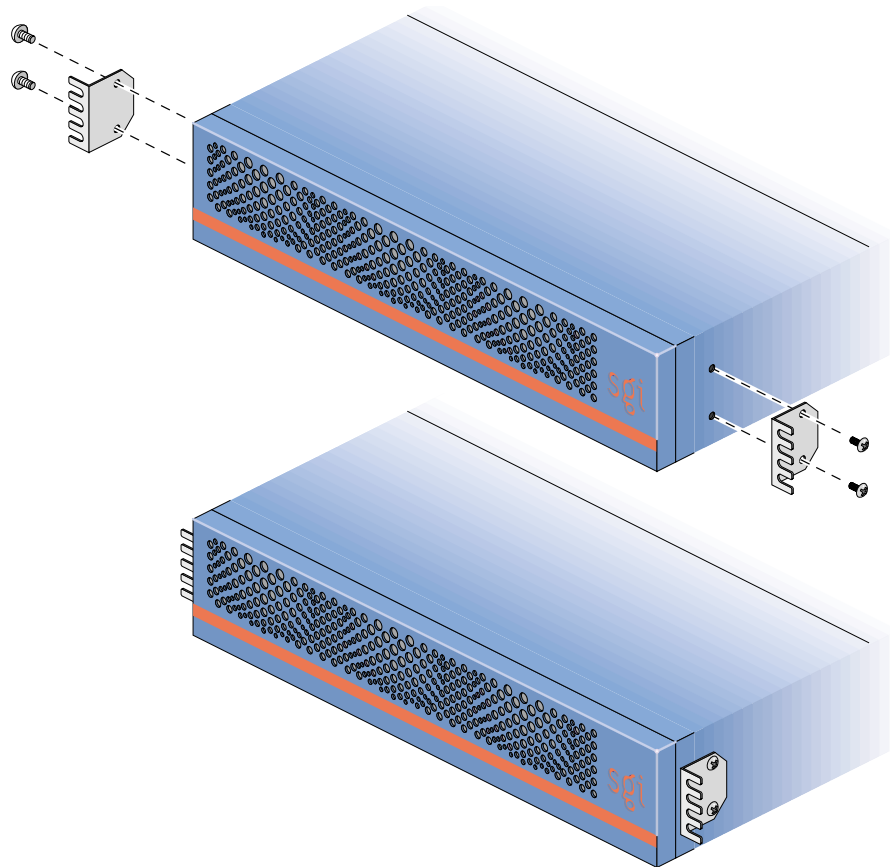

Figure 2-1 Installing the Mounting Brackets on VBOB
2. Place the VBOB on a flat surface and attach the front mounting brackets, as shown in Figure 2-1.